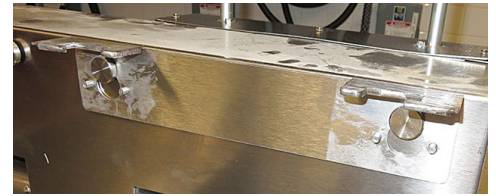

Figure 27
39. Remove existing basket lift hanger (see Figure 26) and discard. Slide new basket lift bracket over the existing studs (see Figure 27).